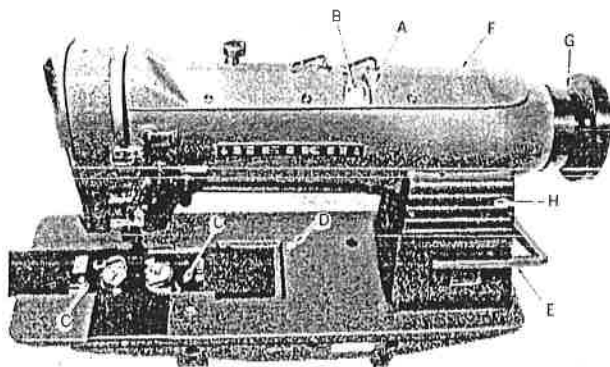
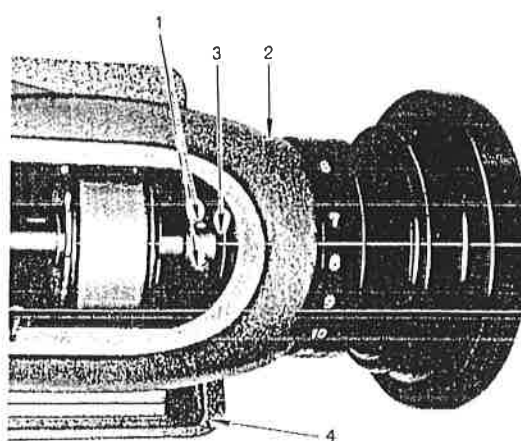

Fig. 2
Fig. 13
(1) To fill the oil reservoir on top of the machine, pour oil through the oil filler hole (A. Fig. 2) until the oil level reaches to the upper reference line in the oil window (B. Fig. 2).
Push open the slide-plates in the bed and pull out the oil gauges (C. Fig. 2).
The stitch length is changed by pressing down the button (D, Fig. 2) in the bed plate of the machine and by simultaneously turning the handwheel slowly toward you.
To do tacking for the purpose of locking the ends of seams, rapidly depress and release the lever (E, Fig. 2).
Remove the arm top cover (F, Fig. 2) and remove the timing belt from the belt pulley, loosen the collar set screws (1, Fig. 13).
Loosen the two set screws (G, Fig. 2) for the handwheel and remove the handwheel adjusting screw (14, Fig. 1). draw out the handwheel from the arm shaft.
Loosen the arm shaft rear bushing set screw (2, Fig. 13), pull out the rear bushing (3, Fig. 13) from the arm hole.
In case of the machine with reverse stitch mechanism, draw out the reverse lever (E, Fig. 2) with its shaft.